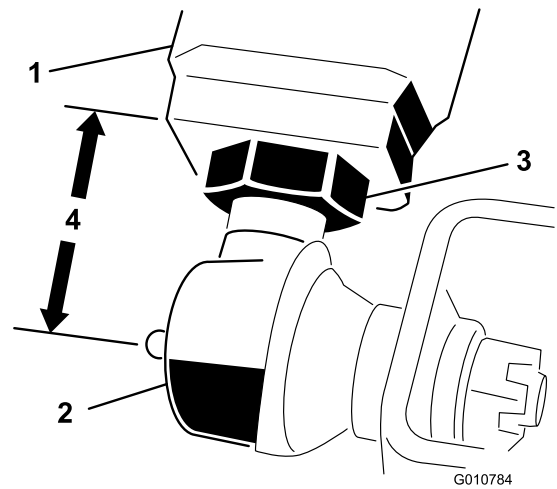

Figure 5
- Measure the distance from the end of each lift arm to the center of the ball joint (grease fitting). The distance should be 2-1/4 inches (57 mm) (Figure 5).